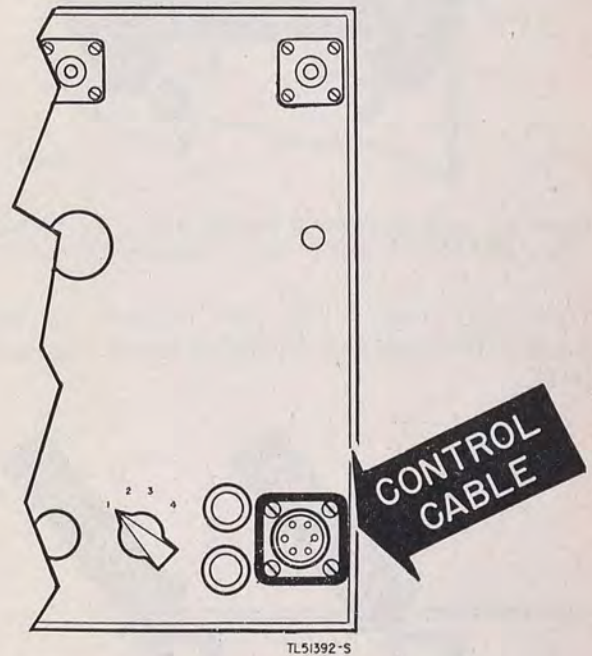

Figure 9. CONTROL CABLE, Radio Transmitter T-14(\*)/.
(13) Control cable receptacle (fig. 9). Engages the plug of cord used to interconnect transmitter with associated receiver.